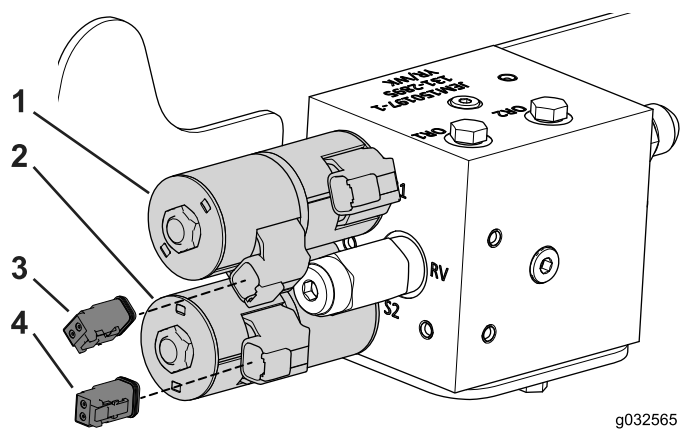

Figure 5
11. Locate the connectors on the wire harness for the kit, unbind them, and connect them to the connectors on the solenoids as shown in Figure 5.